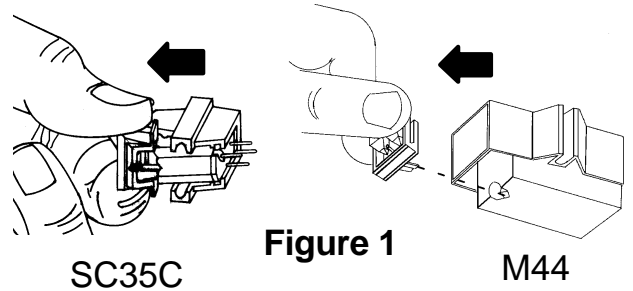

Figure 1
1. Carefully remove the stylus from the cartridge. See Figure 1.